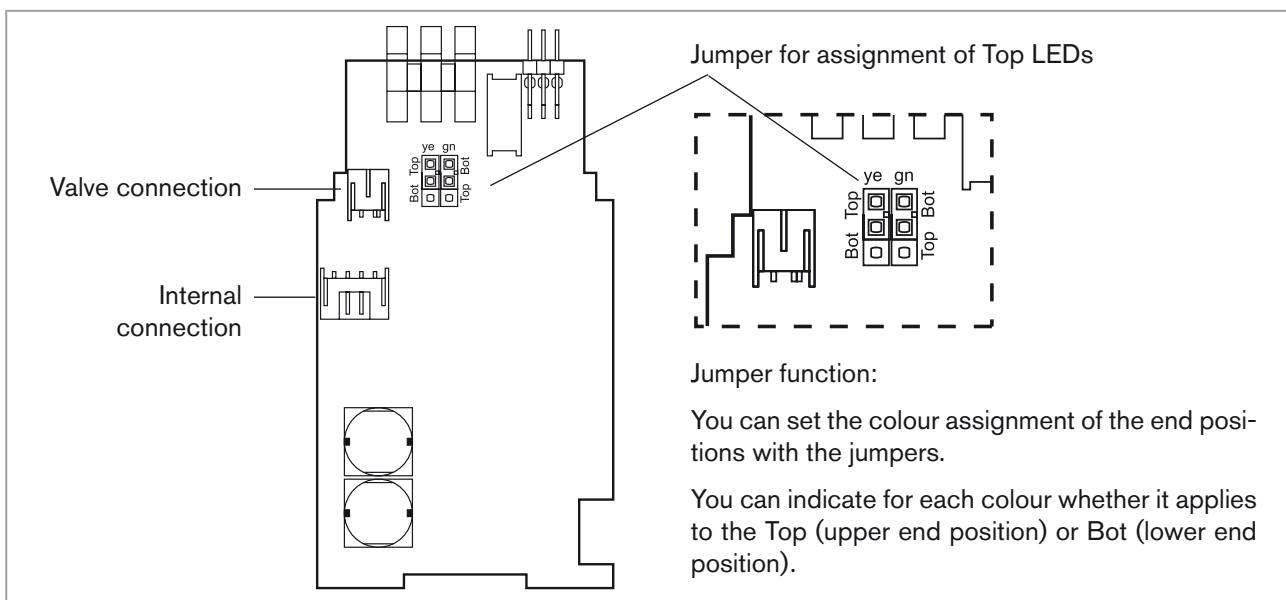

Figure 30: AS Interface PCB
- Using the jumpers, assign the required color to the Top LEDs (see "Figure 30:").